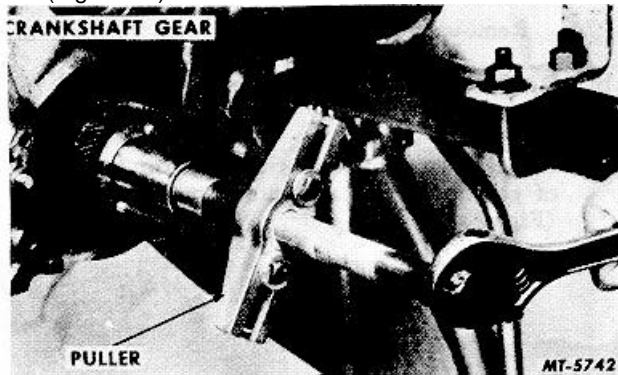

Fig. 77 Removing Crankshaft Gear
67. Remove crankshaft gear using puller SE-1368 (Figure 77).